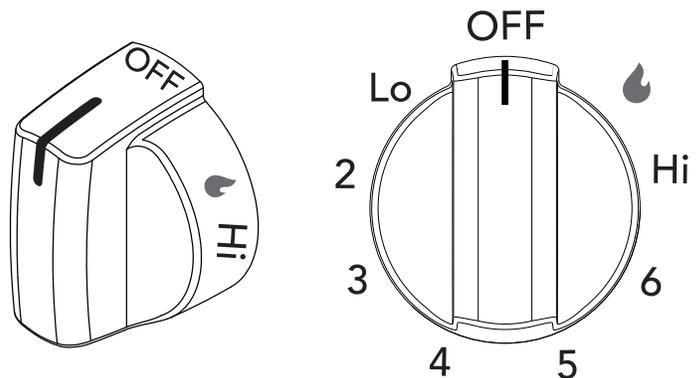

Figure 7: Surface control knob
2. Push the burner's surface control knob in and turn counterclockwise out of the OFF position (Figure 7).